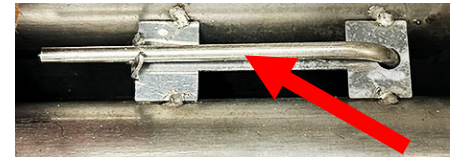

Figure 35
75. Ensure the probe is **straight** and not bent in a way that it will touch the probe bracket. Ensure it is correctly located in the bracket (see Figure 35). If the probe is banged up, but it is working correctly, it will **NOT** be replaced under warranty.